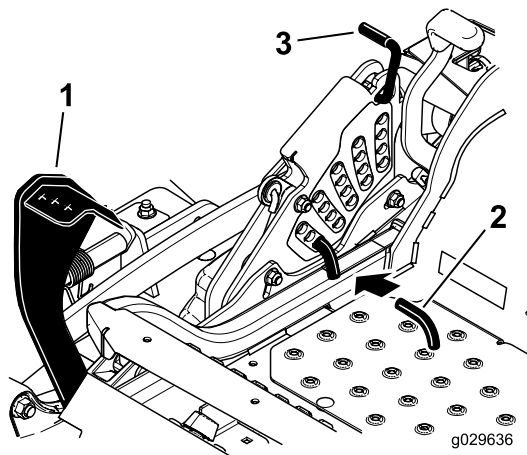

Figure 93
5. Push the deck lift pedal all the way forward and the deck will latch at the 14 cm (5-1/2 inch) transport position (Figure 93).